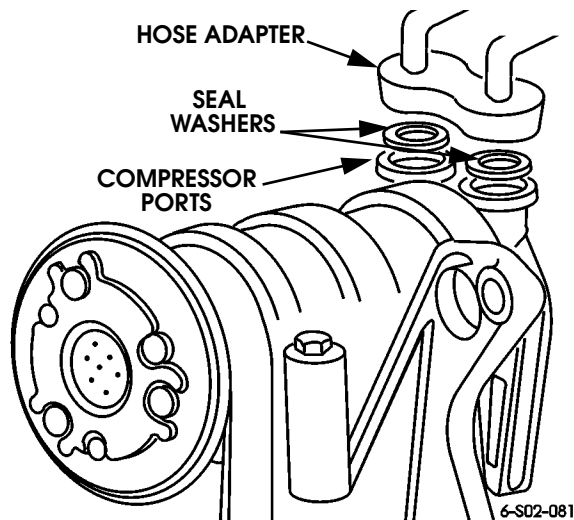

Figure 2-79: Suction/Discharge Hose Connection
21. Disconnect A/C hoses at compressor and at receiver/dryer. Move hoses aside for working clearance. Cap open ends to prevent dirt entry (Figure 2-79).
34. Remove protective wrapping or caps and connect hoses to A/C condenser and oil coolers. Use new O-rings on cooler and A/C hoses if old ones are damaged (Figure 2-79).